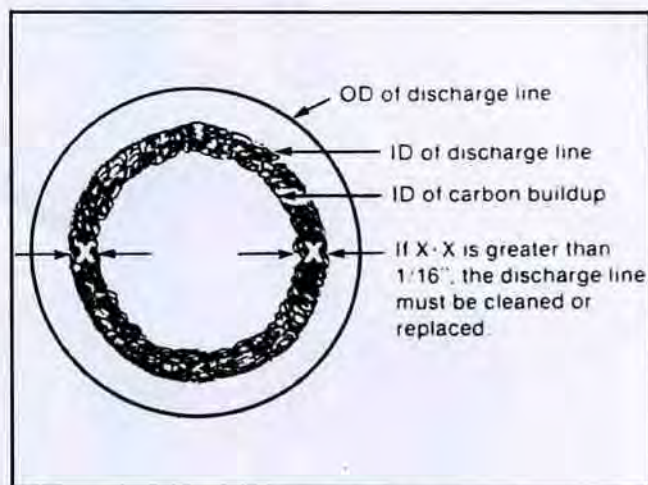

Fig. 2-68, (OM21009). Air discharge line
4. Inspect the air discharge line from the air compressor. If the total carbon deposit thickness (Fig. 2-68) inside the air discharge line exceeds 1/16 inch, remove the head and clean the air passages thoroughly. Also remove and clean or replace the discharge line. Contact the nearest Cummins Distributor or refer to Cummins Bulletin 3379056, "Air Equipment Rebuild Manual" for removing the air compressor head.